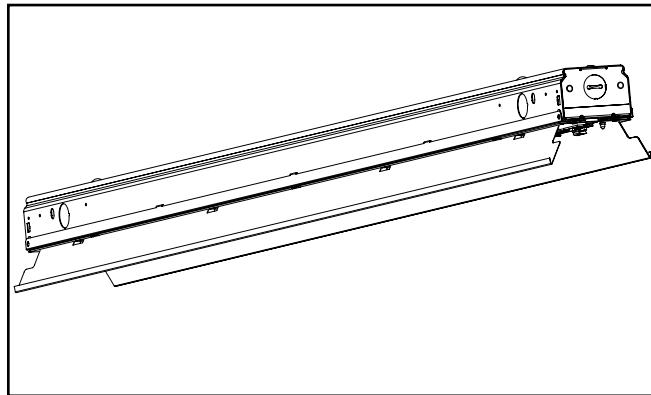

Figure 5.
4. Close the channel cover (Figure 5).